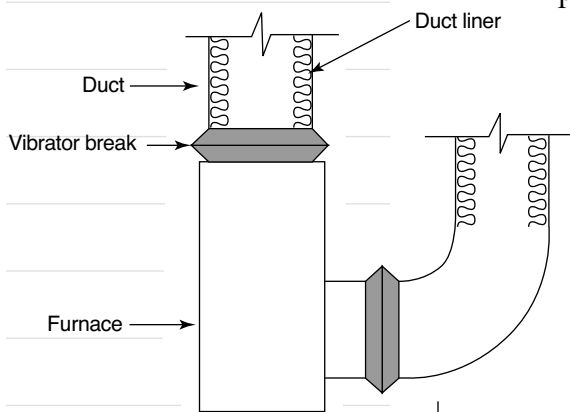

FIGURE 25
- ◆ Use a vibration break between the furnace and major ducts to stop vibrations from getting into the duct walls (see Figure 25).